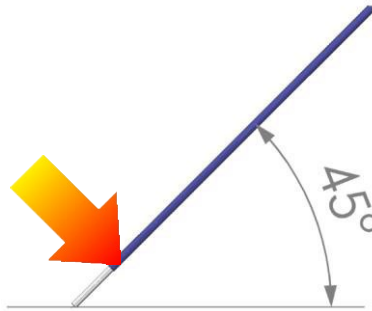

Figure 9: Test of mechanical integrity
1. The o.r. scrub nurse removes the sterile laser fibre from the sterilization tray and inspects the laser fibre for kinks, fractures or other damage. Test the mechanical integrity of the distal tip by applying a sideways force as doing a full stop with a ballpoint pen (Figure 9).
- Test the mechanical integrity of the laser fibre by the ballpoint pen test of (Figure 9).